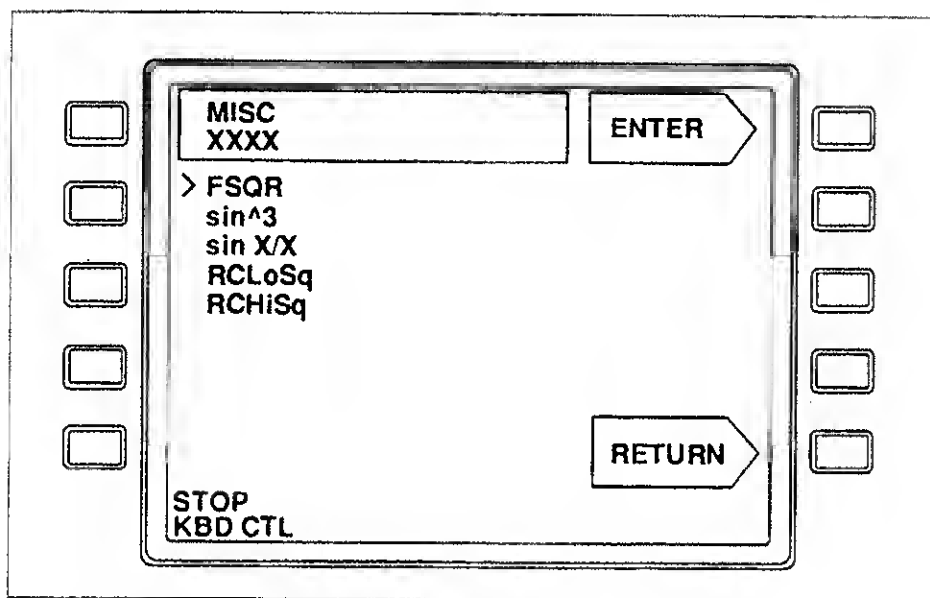

Figure 3-21. MISC Waveform Submenu
The Special Waves Menu provides miscellaneous special-purpose waveforms. From the WAVE menu, press the SPECIAL WAVES Softkey to display the submenu of waveforms shown in Figure 3-21.
- (1) Press WAVE.
- (2) Press SPECIAL WAVES. The MISC submenu (Figure 3-21) should appear.
- (3) Using the Rotary Encoder or the Right/Left Move keys, select a wave type.
- (4) Press ENTER. The appropriate parameter set-up display should appear on the screen.
- (5) Refer to Table 3-3 and set up the required parameters.
- (6) Press R/S to activate the output.